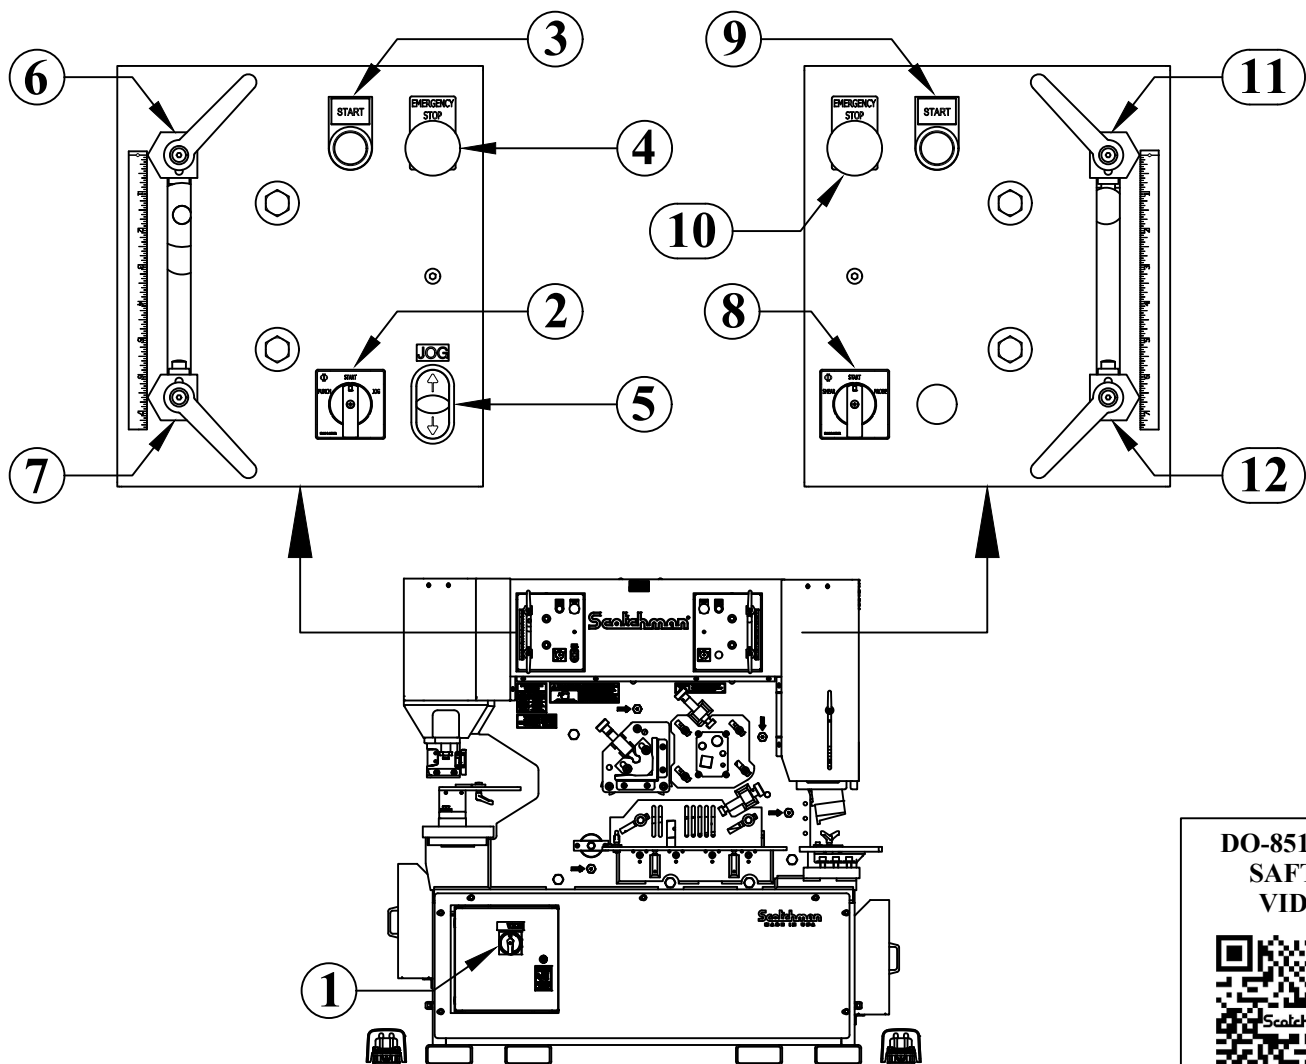

FIGURE 5
- **SINCE THIS MACHINE CAN BE OPERATED BY TWO PEOPLE AT THE SAME TIME, IT IS IMPORTANT THAT THE OPERATORS BE VERY FAMILIAR WITH ALL OF THE CONTROL PANEL FUNCTION AND HOW THEY AFFECT THE OPERATION OF THE MACHINE. REFER TO FIGURE 5 BELOW.**